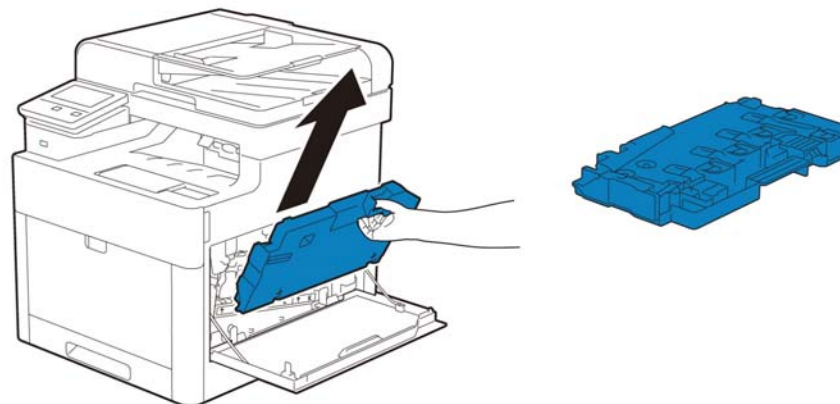

Figure 1 Remove the toner waste box assembly
6. Refer to Figure 1, open the waste box cover on the right side, press the tab and remove the waste box assembly.